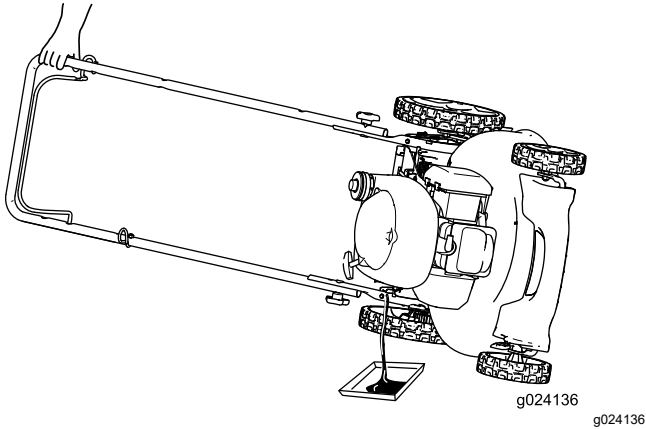

Figure 20
- Tip the machine onto its side (so that the air filter is up) to drain the used oil from the oil-fill tube (Figure 20).